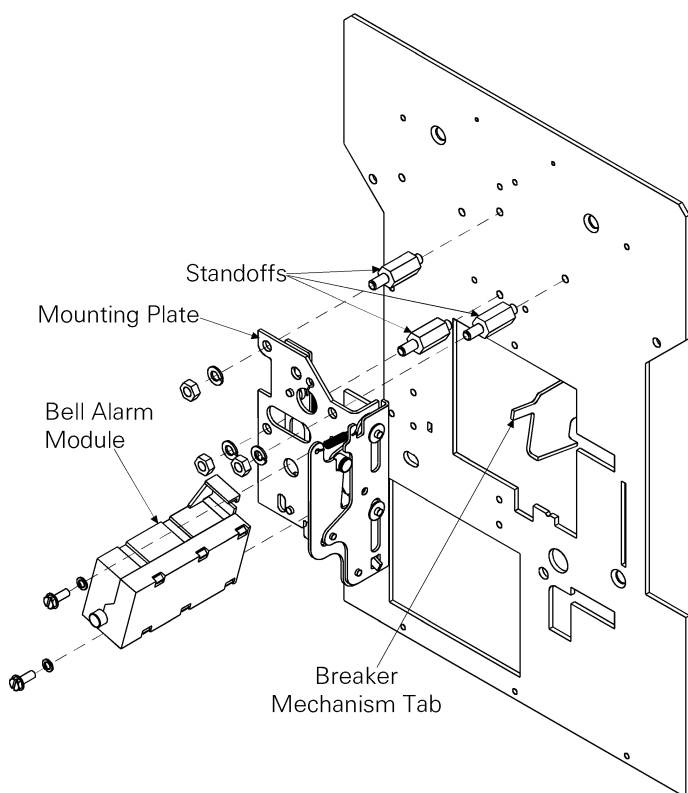

Figure 8-3. Bell alarm installation or removal (shown as bell alarm with lockout).
Use the following procedure to remove the bell alarm module and mounting plate, as illustrated in Figure 8-3. If only the bell alarm module is to be replaced, it is not necessary to also remove the mounting plate (stop with step 4).
2. Ensure that the actuating tab from the breaker mechanism engages the slot in the bottom of the mounting plate, as illustrated in the front view in Figure 8-3.
3. Line up the bell alarm module on the mounting plate, as shown in Figure 8-3, so that the solenoid plunger and locating pin fit in the appropriate holes.